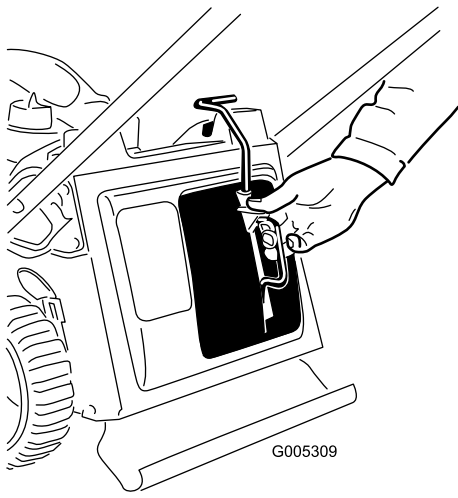

Figure 24
1. Remove the mulch plug (Figure 24).